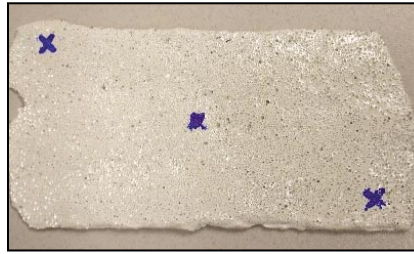

Figure 2. Locations for Measuring Marking Thickness.
- The most accurate measurement method is to measure diagonally across the sample (taking at least three measurements per sample). Figure 2 illustrates where the measurements should be made on the sample.